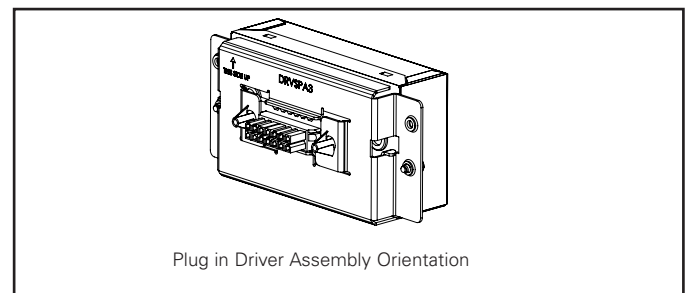

Figure 24.
10. Bring in the new plug-in driver box assembly while ensuring the INSTALL THIS END UP arrow points upwards (Figure. 24).